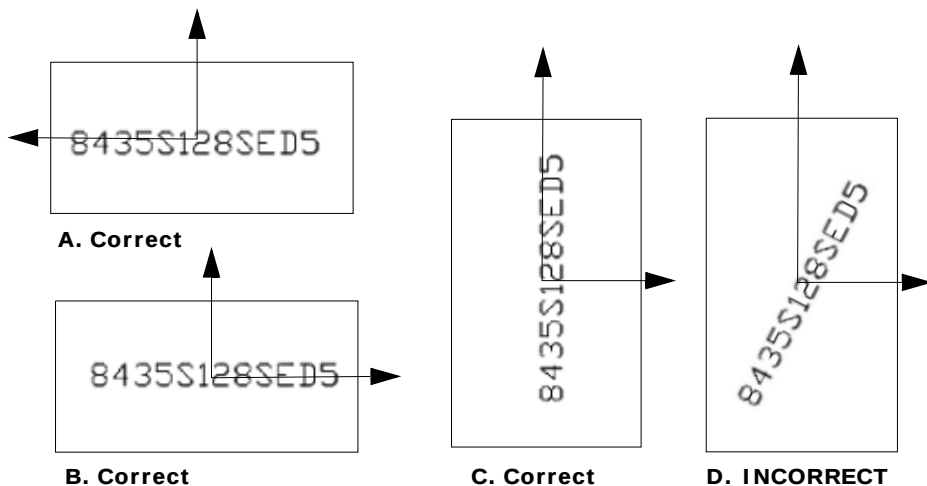

Figure 424 Correct Positioning of OCR Fixed Font Tool
- The Rectangle must be positioned so that its axes are orthogonal to the character string. Figure 424 shows examples of correct positioning (A, B and C) and incorrect positioning (D). Depending on the configuration of the tool, it can be possible to decode